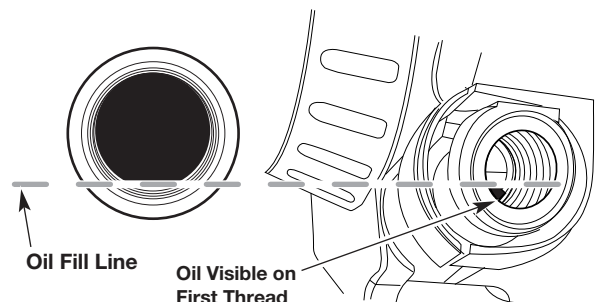

Fig. 10
5. Look into the oil fill hole; use a flashlight if necessary. **Add oil to the oil fill hole until the oil level is visible on the first thread of the oil reservoir** (Fig.10). If the oil level is too low, add oil to the oil fill hole until the oil level touches the bottom thread of the oil fill hole.